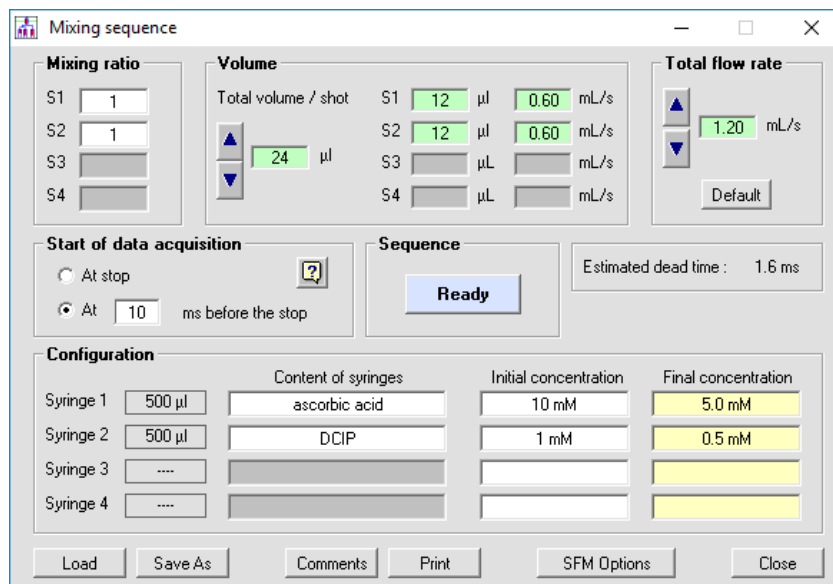

Figure 23: driving sequence for the reduction of DCIP.
- Edit the driving sequence shown in Figure 23 .
- Edit the driving sequence shown in Figure 23.